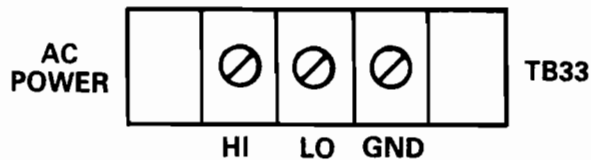

Figure 3.4.1 AC Power Connections
**Power Connections:** The 3B Series Subsystem can operate from an ac power supply, a dc/dc power supply or an externally provided  $\pm 15V$  and  $+24V$  supply. If an ac power (i.e. AC1300, AC1301) is used, it should be secured to the backplane with the retainer clip or hold-down screws as discussed in Section 3.3. The input wiring is connected to TB33 as indicated in Figure 3.4.1. The wiring of the ac power connector is most readily accomplished by removing the two corner screws that secure the yellow safety cover to the connector. This enables the cover to be easily removed so that the ac terminals are accessible.